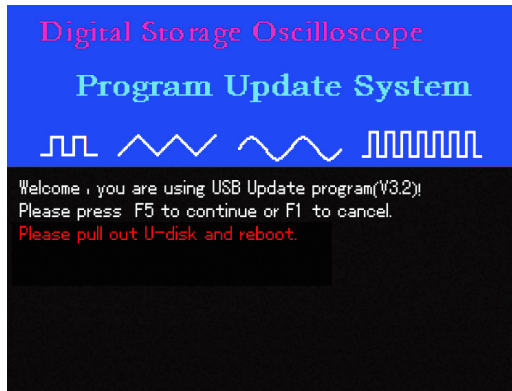

Figure 5-6
1. During the upgrade process, you can cancel upgrade and exit the upgrade system by pressing [F1] as guided by the on-screen instructions. The prompt shown in Figure 5-6 will appear: “Please pull out U-disk and reboot.”